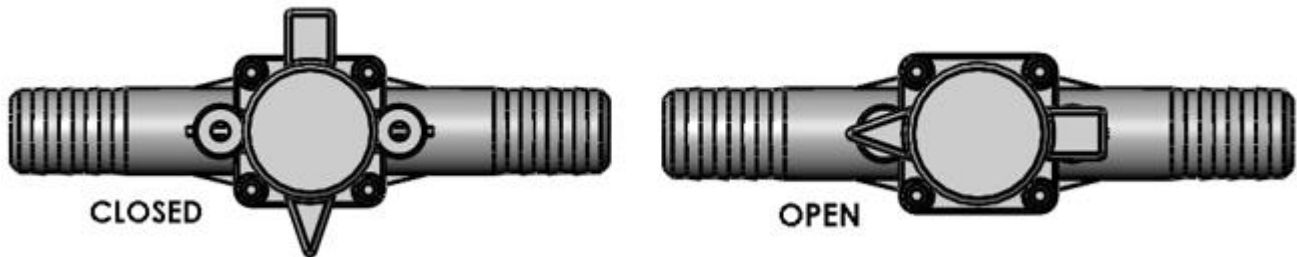

Figure 17
39. Verify that the 5/8" Shutoff Valve installed earlier is in the open position. The valve should be turned such that the handle is parallel to the 5/8" hose. See Figure 17.